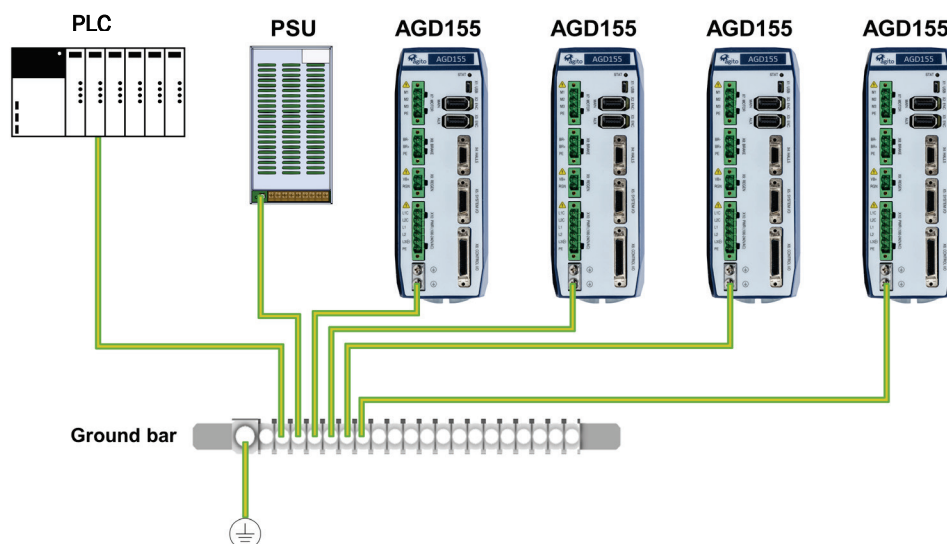

Figure 7. System grounding
- The AGD155 must be connected to protective earth (PE) and connected to the building's ground. PE is protected with an earth-leakage circuit breaker (ELCB); hence it is safe to touch. Refer to Figure 7.